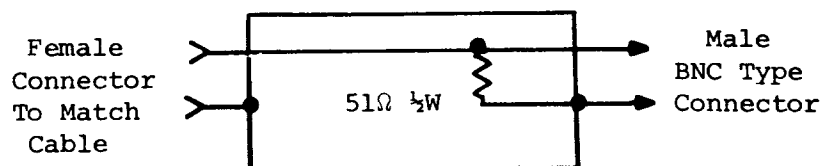

Fig. 14. Termination for counter.
- c. A 50-ohm termination resistor is required at the counter input if a 50-ohm coaxial cable is used to prevent erratic counting caused by ringing and reflections. Refer to Fig. 14.